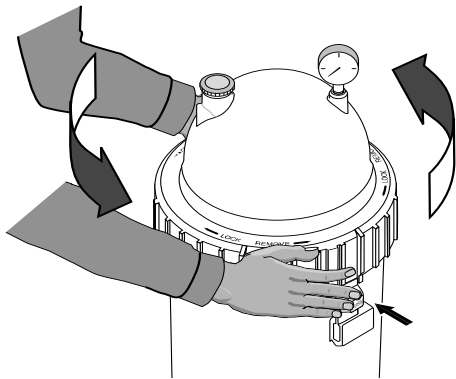

Figure 4 – Depress safety latch to unscrew the Posi-Ring®.
- a. Press the safety latch (below the ring) toward the tank to release it (see Figure 4).